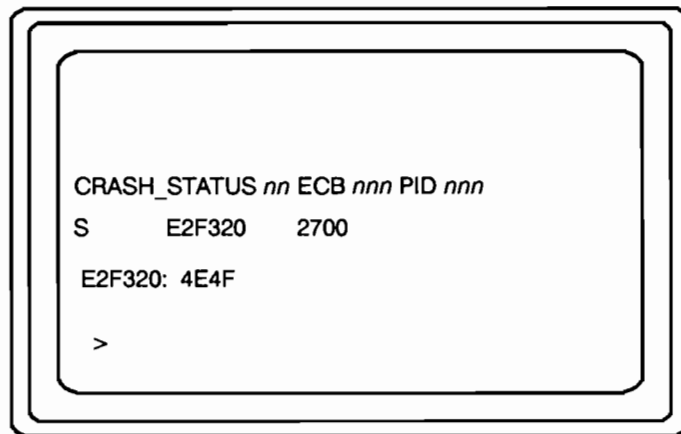

Figure 8-9. MD Prompt Following a Sample System Crash Message
A crash is an unexpected exit from the operating system to the Mnemonic Debugger (MD) program. When a system crashes, all processes stop and a crash message appears at the bottom of your screen. The crash message is followed by the MD “>” prompt as shown in Figure 8-9.